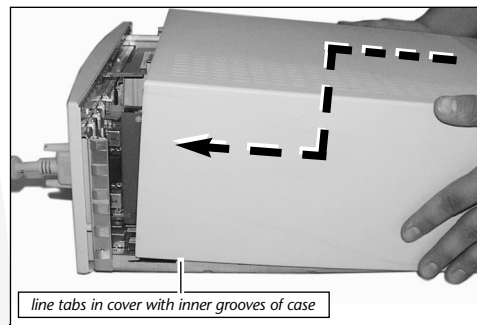

Figure 24: Replace case cover onto computer
22. **Carefully** replace the cover onto your computer by slanting the front end of the cover over the computer (**Figure 24**). Confirm the inner grooves of the bottom of the case align with the tabs in the cover. As you slide back the cover, the top of the video adapter board and attached flex cable should fit nicely into the cutout of the cover. When the cutout of the cover clears the connector, you can lower the cover into place.